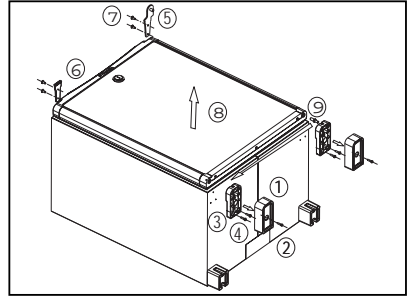

Figure 8.
8. Reversing the door hang (Fig. 8.)